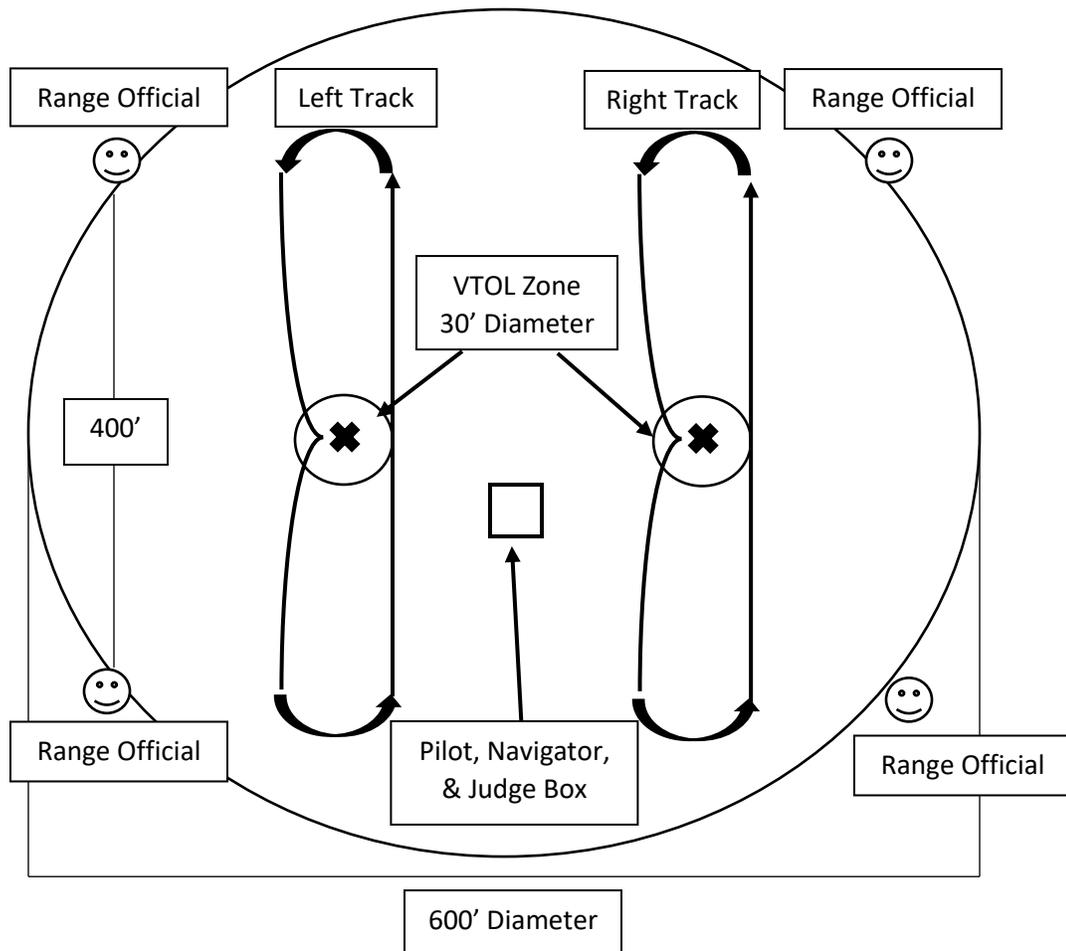

Figure 4: Maximum Range Course
The maximum range course is meant to test the aircraft's range and to some extent the vehicle's endurance. A known challenge for electric aircraft is the low energy density in current battery technology. This means that to meet functional ranges, the aircraft must operate as efficiently as possible during cruise flight to achieve longer ranges and be marketable for mission success. The course starts and stops at the respective VTOL zone for the left or right track (see Figure 4).
- Fly around the course as shown in Figure 4